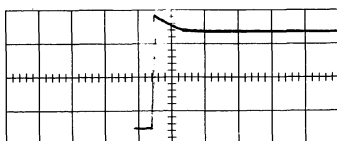

Fig. 7-4 Effect of "cathode interface" in V.A. 0.5 μ sec/cm.
- 7.1.3.3 Distributed Amplifier Tube Defects: If tube replacement in 7.1.3.2 does not eliminate changes in slope (Fig. 7-4 or 7-5) with line-voltage change, distributed amplifier tubes (6CB6's or 6DK6's) will require replacement.